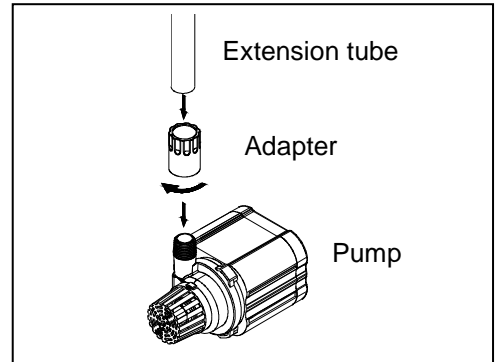

Fig. 3
3. Connect the extension tube to the outlet of the pump using the adapter (adapter is part of fountain head kit). Fig. 3